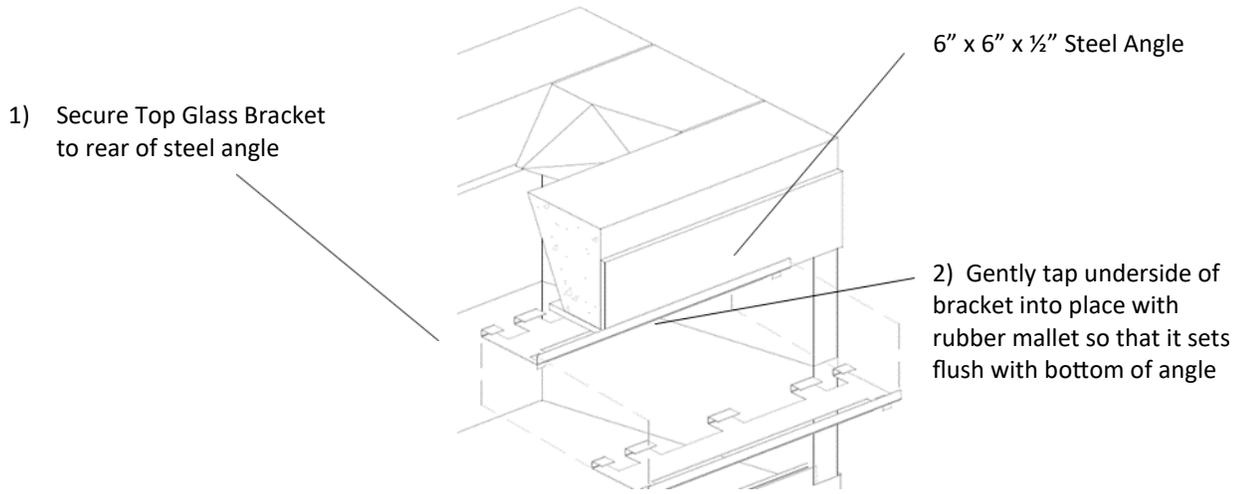

FIGURE 17
- 9) For the 60", 72", 96" and 120" models, once the dampers beams are set into place, secure the Top Glass Bracket A (E-TG2) in place with the bottom of the angle steel as shown (Figure 17). Each model will require a different number of these to be spaced equally across the firebox's opening. Tap them into place utilizing a rubber mallet to prevent marring the finish.